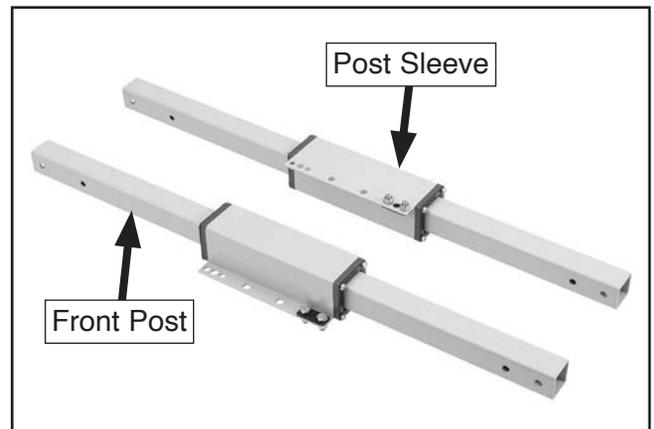

Figure 26. Post sleeves installed on front posts.
21. Slide front posts through post sleeves, as shown in **Figure 26**.